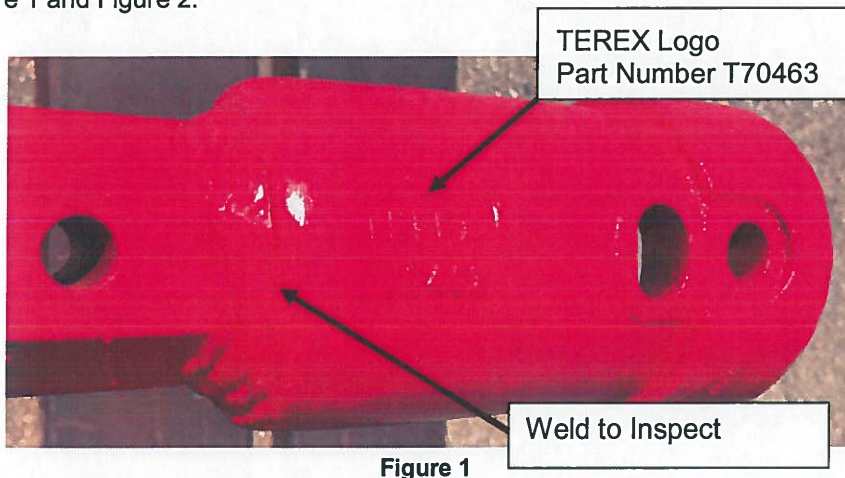
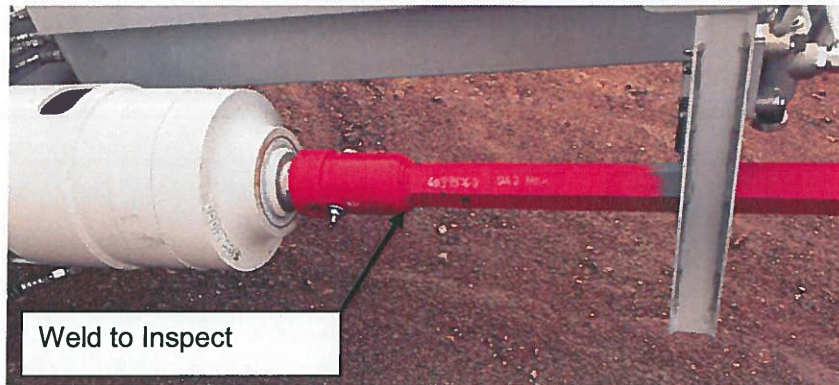

Figure 1
Figure 2
- a. This bulletin applies to one piece kelly bars that have a digger drive coupler welded to the hex shaft and the coupler is marked with TEREX logo and part number T70463 as shown in Figure 1 and Figure 2.
- iii. Send a picture, similar to figure 1, of the suspect kelly bar to Terex warranty at utilities.warranty@terex.com. If the bar is affected, a replacement will be shipped. Include the digger derrick model and serial number with your email.
- ii. Send a picture, similar to figure 1, of the suspect kelly bar to Terex warranty at utilities.warranty@terex.com. If the bar is affected, a replacement will be shipped. Include the digger derrick model and serial number with your email.